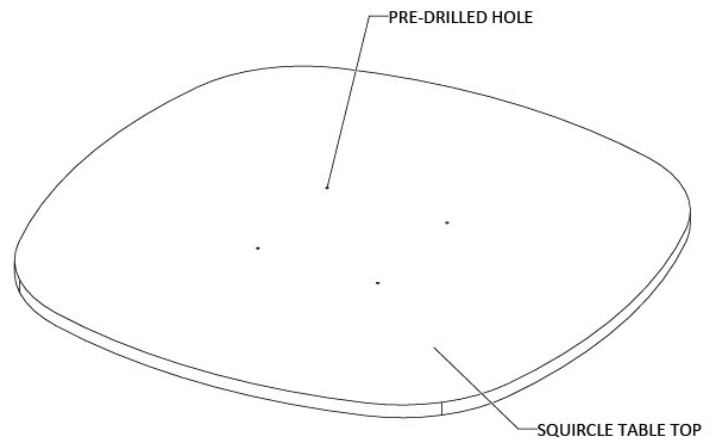

Figure 1
1. Place the squiracle table top on a clean solid surface or floor with the underside facing up, (Figure 1).